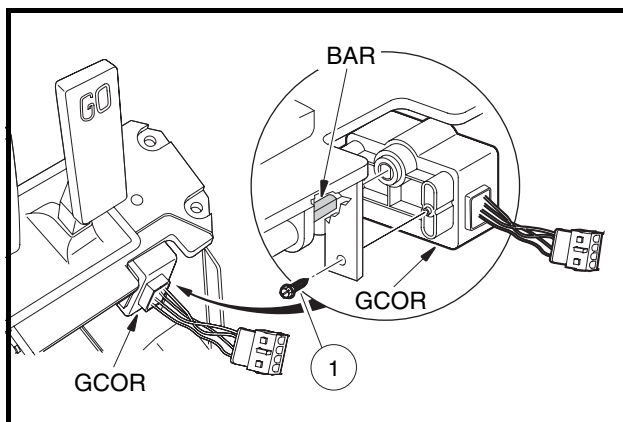

Figure 5-3 GCOR Removal
7. Loosen turnbuckle (6) until the threaded rod from the pedal group (13) is free of the turnbuckle.
9. Remove two screws (2) on the driver side of the pedal group and two screws (1) on the passenger side of the pedal group.
12. Release the end of the accelerator cable (10) from the pedal group.
13. Remove two screws (1) to separate the GCOR from the pedal group (**Figure 5-3, Page 5-3**).